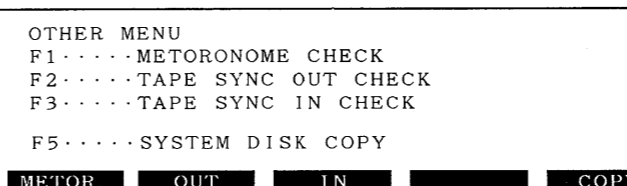

Fig. 6
- [F5] (METORONOME & TAPE SYNC) Fig. 6